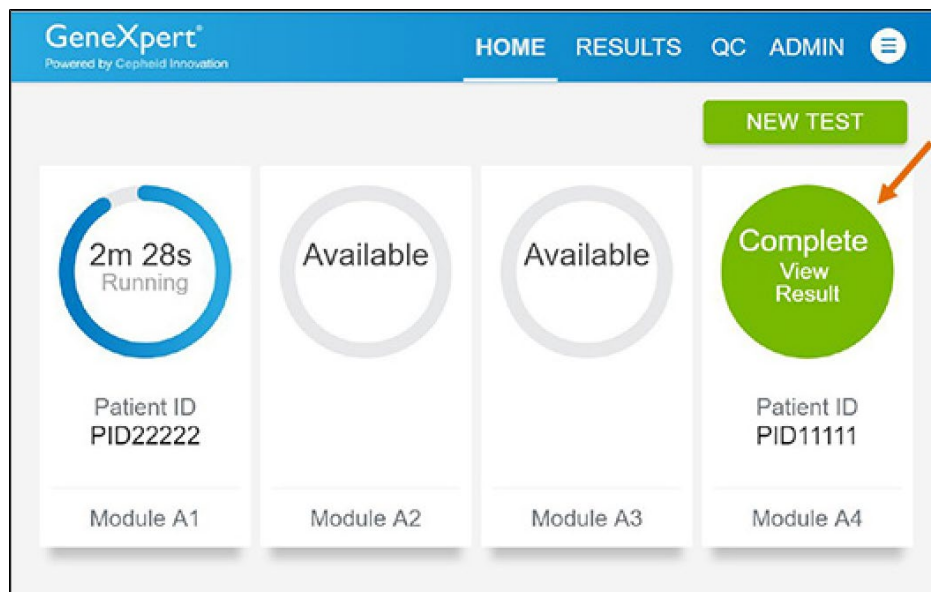

Figure 14. Home Screen with One of Two Tests Completed
1. When a test is completed, touch **COMPLETE View Result** (see Figure 14).